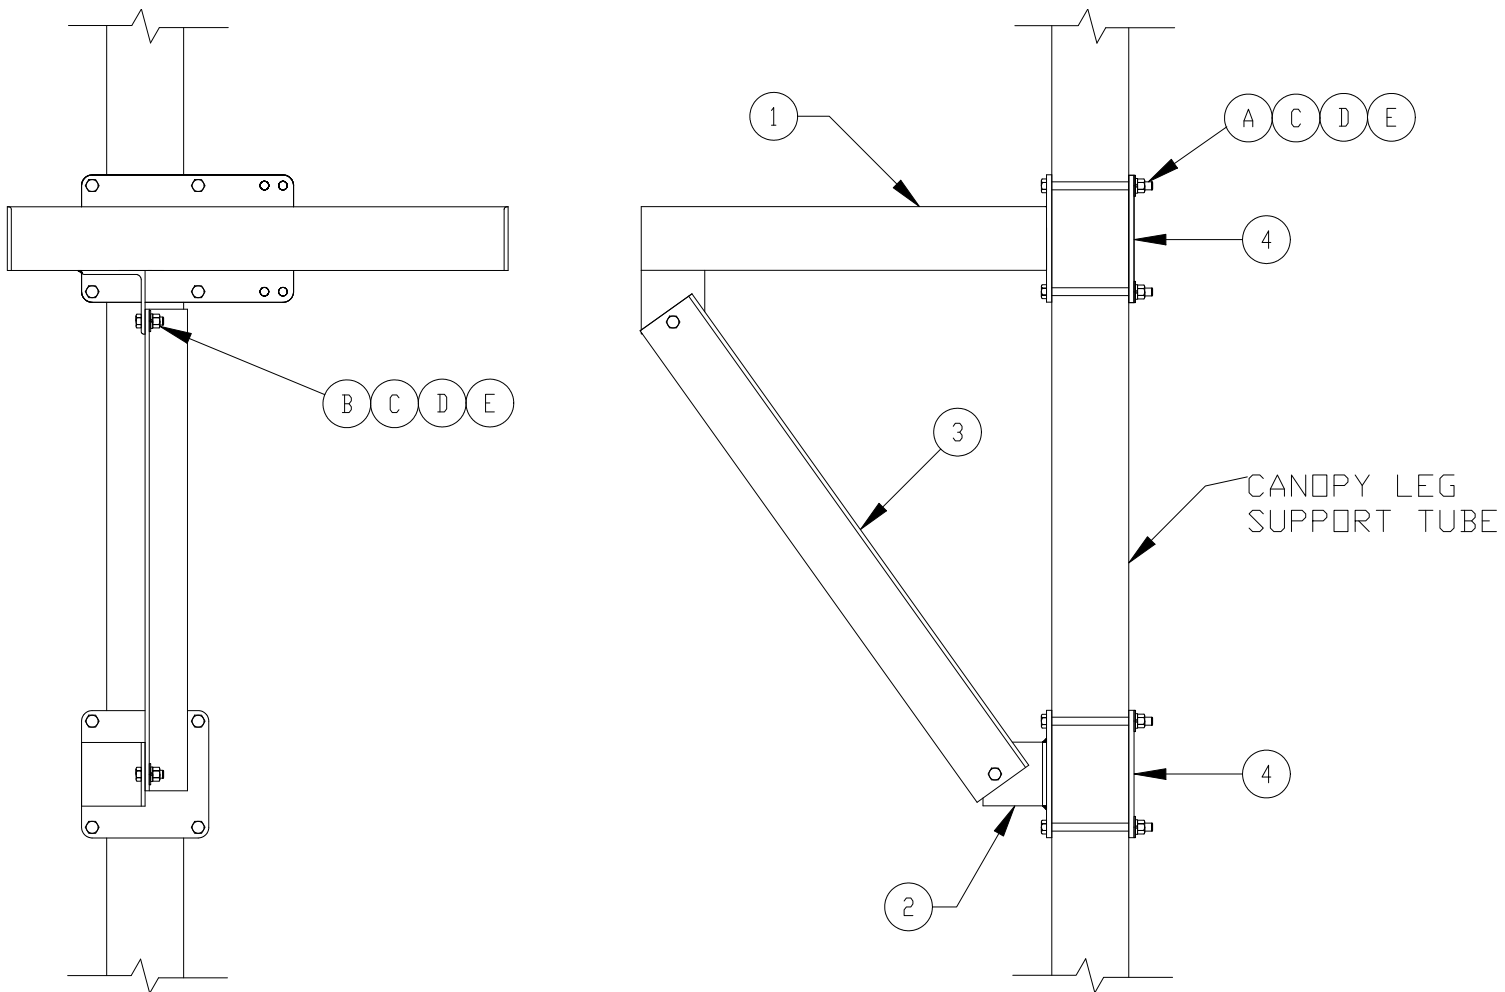

Figure 1
3. Mount the Shelf Frame #1 onto the Canopy Leg Support Tube as shown in Figure 1 using bolts **A**, flat washers **C**, lock washers **D**, nuts **E**, and a Mounting Plate #4.
5. Loosely attach the Shelf Bracket #2 to the Diagonal Braces #3 as shown in Figure 1 using bolt **B**, flat washer **C**, lock washer **D**, and nut **E**.
6. Mount the Shelf Bracket #2 onto the Canopy Leg Support Tube as shown in Figure 1 using bolts **A**, flat washers **C**, lock washers **D**, nuts **E**, and a Mounting Plate #4. Tighten all hardware.